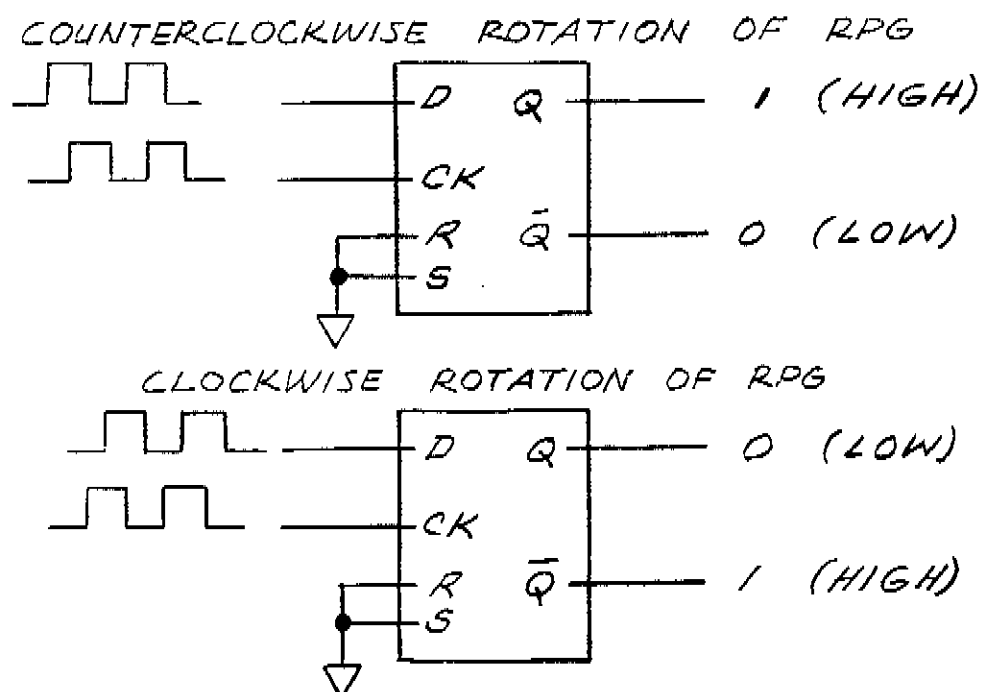

Figure C3-22A. Up/Down Detector Operation
When one of the RPGs is turned, pulse trains similar to those shown in Figure C3-22A are delivered to the Up/Down Detectors. Both pulse trains are applied to the D flip-flops; one to the clock (CK) input and one to the data (D) input. The logic states of the outputs of this flip-flop are determined by the phase relationship of the inputs as shown in Figure C3-22A. The  $\bar{Q}$  output of the flip-flop is connected to the Up/Down (U/D) input to the Counters. When U/D is high (logic "1"), counters count up and when U/D is low (logic "0"), counters count down. The Q output of the flip-flop is connected to the Stop circuits.